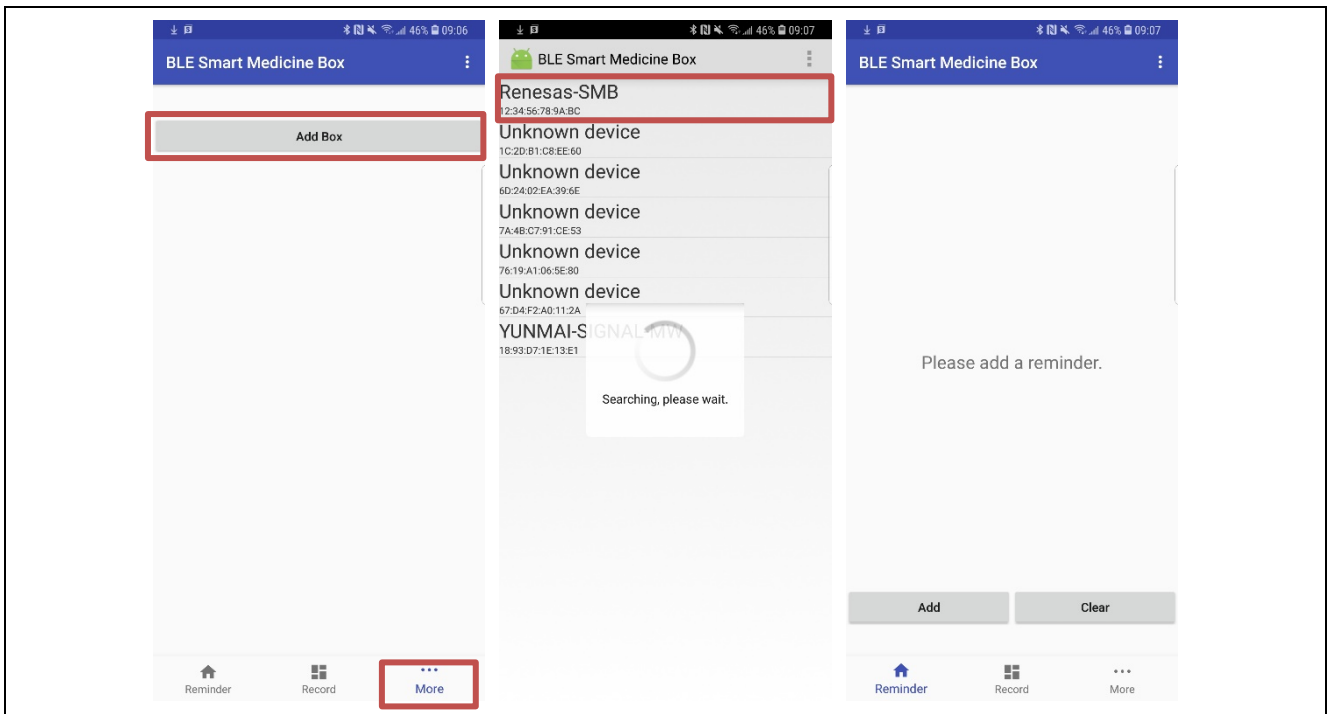

Figure 3.5 Connect the Smart Medicine Box to Mobile App via BLE
(1) The smart medicine box can be powered on via micro USB or batteries. Switch the SW4 to choose the power source (USB or VBAT). Power on the smart medicine box, it will enter the initialization operation. The RL78/G1D BLE module will be reset, and the 4-digit 7-segment LED will be ON. After 10 seconds, the smart medicine box enters STOP mode.
(2) BLE protocol is used for communication within the smart medicine and mobile phone app. Click “More” and “Add Box” button, the smart medicine box BLE device of “Renesas-SMB” will be found out. Select this device and the mobile app will connect to the medicine box via BLE automatically. This setting procedure is shown in Figure 3.5.